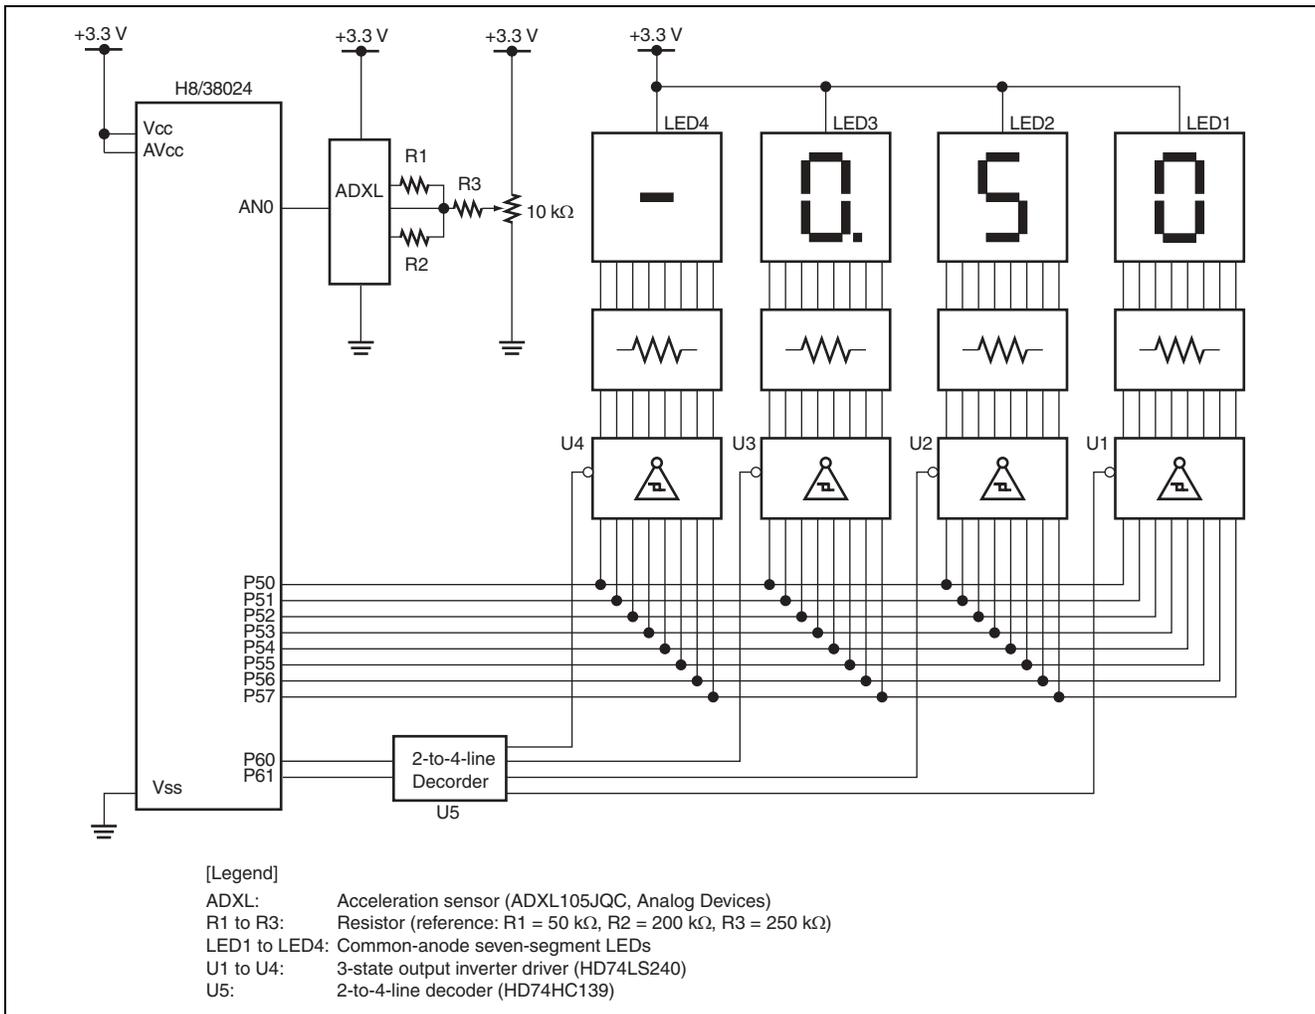

Figure 1.1 Hardware Configuration
- Figure 1.1 shows the hardware configuration of an example of connecting a semiconductor type acceleration sensor. The sensor is connected to analog input pin 0 (pin AN0) as shown in the figure.